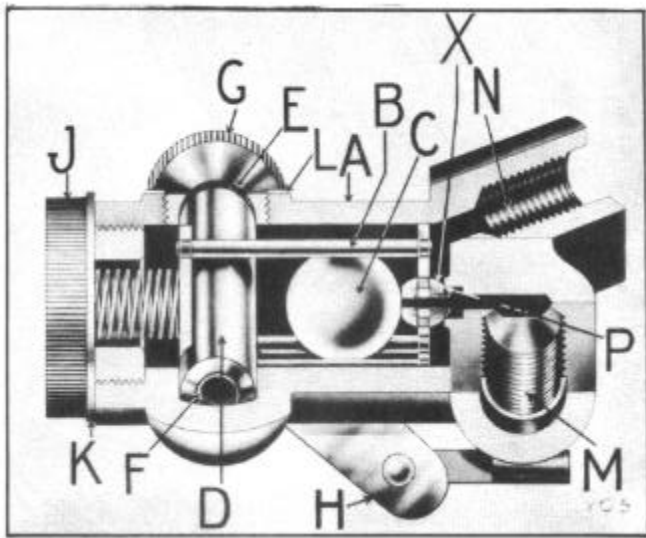

Figure 15--Hill Hold with Clutch Pedal Depressed
If the clutch pedal had been depressed before the brake pedal the parts would have been in the position shown in Figure 15. Here the cage (B) is seated on the valve seat (P) so that the brake fluid would force the ball (C) away from the seat (X) and the fluid would pass around the cage and out (N) to apply the brakes.
1. Using a center punch mark the shaft and the lever (H), Figure 15, so that they can be put back in the same position.
2. Remove lever (H) by loosening lock screw.
3. Remove head (J), gasket (K), and spring (I).
4. Remove camshaft plug (G), camshaft (D), and spring (F) can then be removed.
1. Insert ball cage (B), Figure 15, with the two large ball rails on the under side of the camshaft (D).
2. Insert spring (F) in camshaft (D) and insert both in the housing. Make certain that spring (F) remains in place in the shaft.
3. Install plug (G).
4. Replace lever (H) being certain it is in the same position as originally on the camshaft (D) and pointing down.
5. Use new gasket on head (J) and put spring (I) in the head and install in the body.